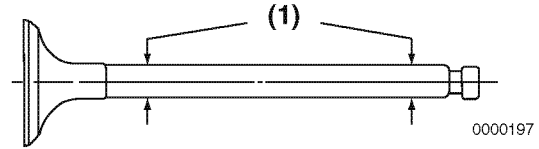

Figure 6-20
Use a micrometer to measure the valve stem diameter. Measure the valve stem near the combustion end and near the opposite end (**Figure 6-20, (1)**). See *Intake / Exhaust Valve and Guide* on page 6-5 for the service limit.